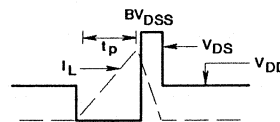

Fig. 15 — Unclamped Energy Waveforms
4. $V_{DD} = 20V$, starting $T_J = +25^\circ\text{C}$, $L = 3.37\text{mH}$, $R_{GS} = 50\Omega$, $I_{PEAK} = 9A$. See Figure 15.
4. $V_{DD} = 20\text{V}$, starting $T_J = +25^\circ\text{C}$, $L = 3.37\text{mH}$, $R_{GS} = 50\Omega$, $I_{PEAK} = 9\text{A}$. See Figure 15.